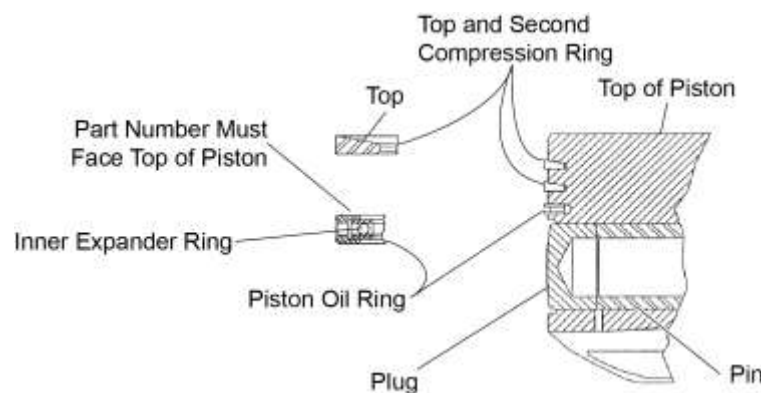

Figure 24
- A. Start from the top down, use the commercially available piston ring expander tool to remove the two top piston compression rings, the piston oil ring, and the inner expander ring (with the piston oil ring) (Figure 24).
- C. With the piston top side up on a workbench, install the inner expander ring with the part number facing toward the top of the piston in the first groove above the piston pin hole (Figure 24).
- E. Install the two top compression rings (Figure 24) with the word "Top" toward the top of the piston in the remaining top grooves. Orient the gaps in the two compression rings 180° from each other parallel with the piston pin hole.